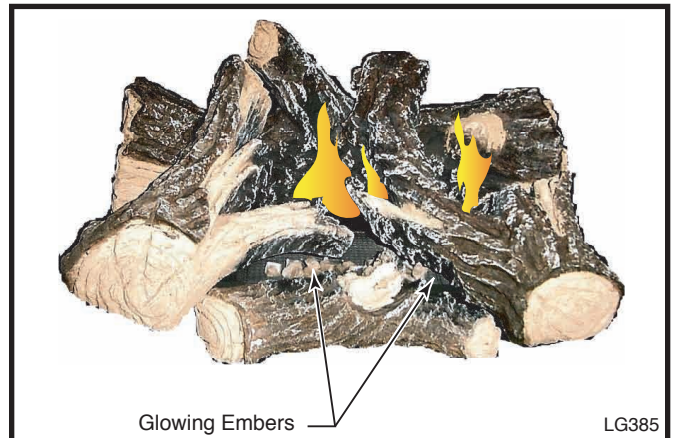

Fig. 49 Correct burner flame appearance for 36LDVR.
5. Place ember material on top of burner. Scatter the ember material over the tiles on the front area of the burner housing. (Fig. 49) Do not pack the ember material. Separate it when unpacked and keep it in a fluffy and loose condition for a more realistic ember effect.